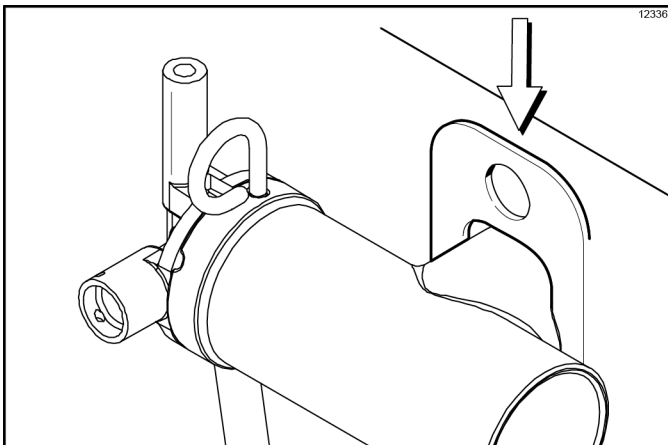

Figure 6-42
3. Install the air/mix pump assembly at the rear of the mix hopper. To position the pump on the drive hub, align the drive slot in the piston with the drive crank of the driveshaft. Secure the pump in place by slipping the pump clip over the collar of the pump, making sure the clip fits into the grooves in the collar. (See Figure 6-42.)